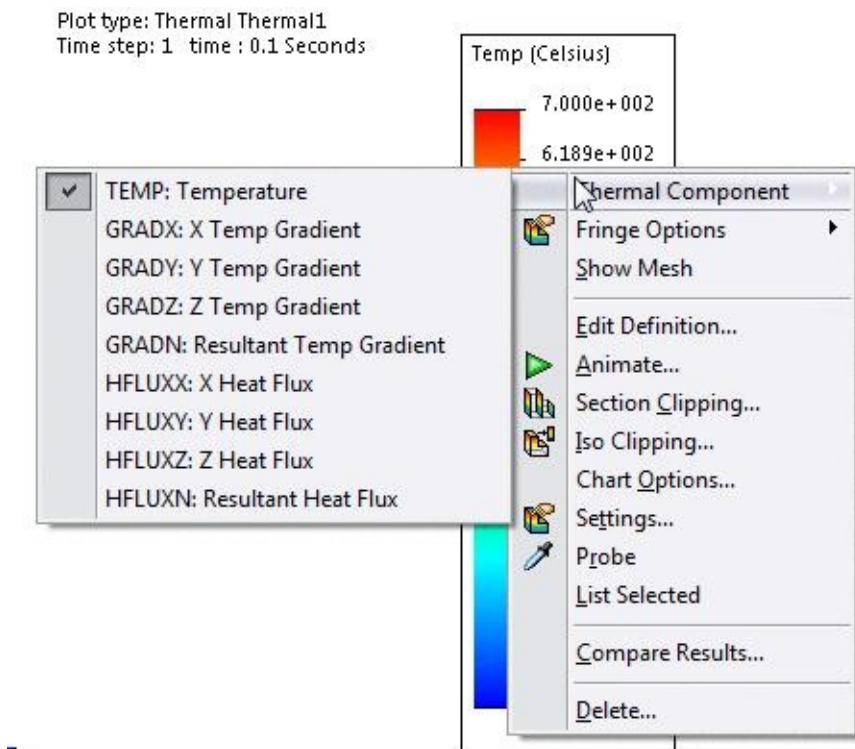

Figure-22. Thermal Components
- You can select the other components of Thermal analysis by right-clicking on the **Temperature scale** and selecting the desired option from the Thermal Component cascading menu; refer to Figure-22.